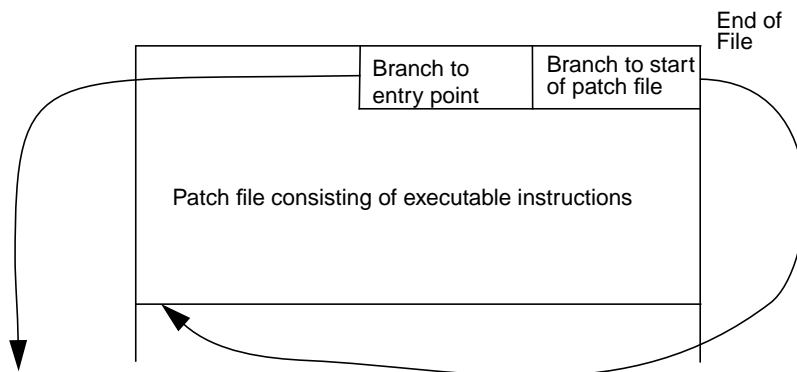

Figure 9-2. Detail of Patch File Placement
- p patch_file** The patch file flag causes the file *patch_file* to be placed into the image just before the final branch and logically inserted into the instruction stream between the branch at the end of the file and the entry point. The patch file is inserted into the image "as is" and will usually contain the binary representation of position independent executable instructions. See Figure 9-2 for the details as to how normal hbranch processing is changed by a patch file.